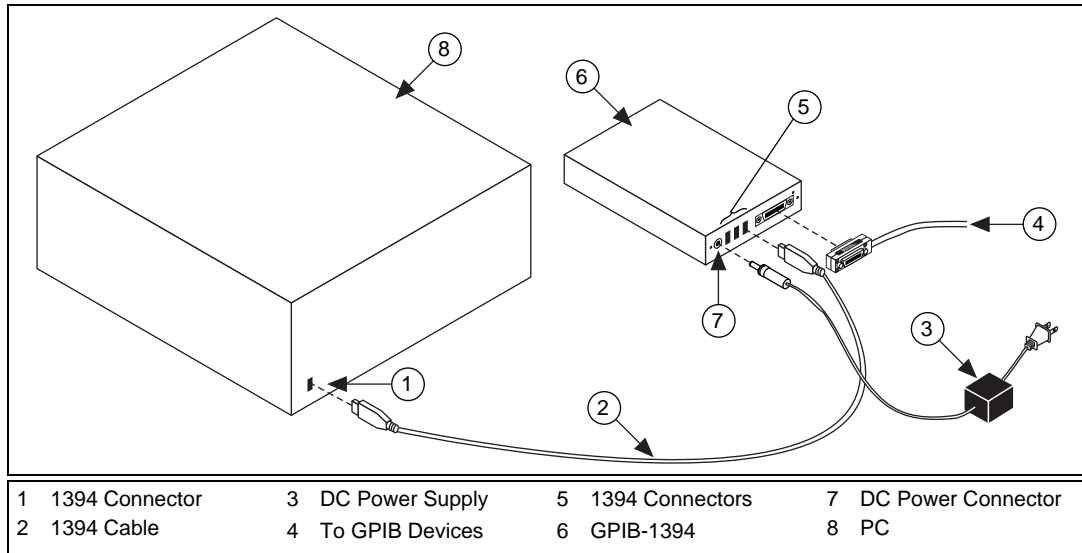

Figure 14. Installing the GPIB-1394
2. Plug the DC power supply into an AC outlet. Figure 14 shows how to connect the GPIB-1394.